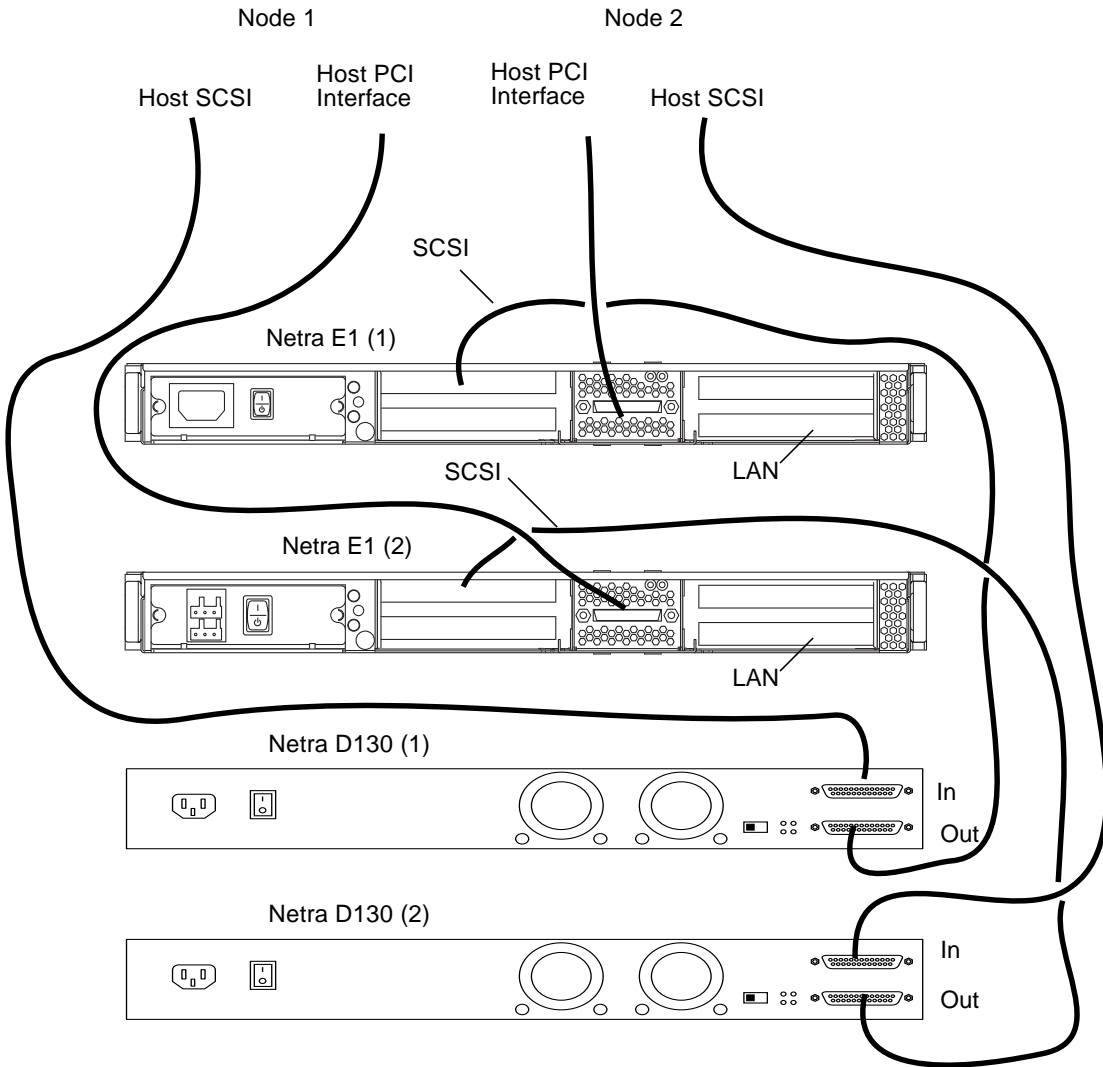

FIGURE D-2 Example of SCSI Cabling for an Enclosure Mirrored Pair
1. Connect the cables to the Netra D130/StorEdge S1 enclosures, as shown in FIGURE D-2.